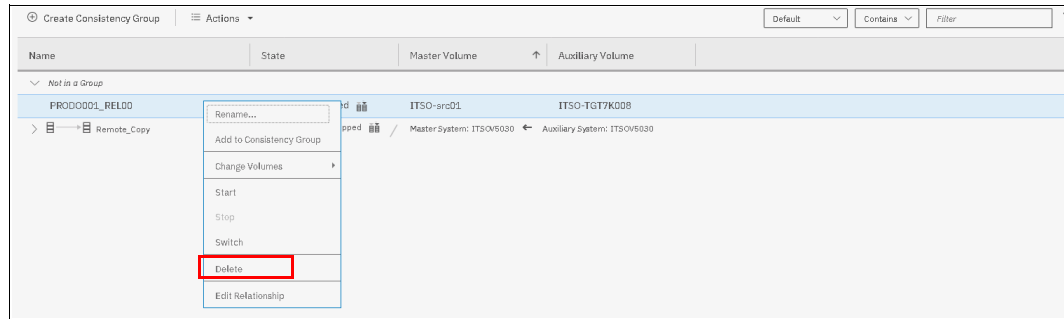

Figure 10-123 Selecting the Delete Relationship option
2. In the table, select the remote copy relationship that you want to delete and right-click **Delete**, as shown in Figure 10-123 on page 589.